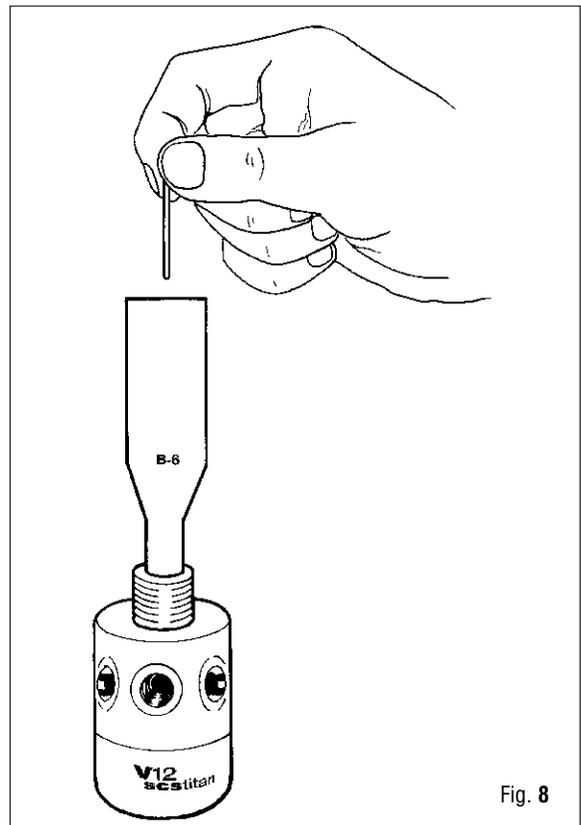

Fig. 8
14. Install protection cap (110).
15. Install O-ring (74) on seat connector (75).
17. With a slight pressure, push seat connector into position in the first stage body. (Fig. 8)
12. Insert poppet pin (12) in seat connector (75) using special tool B-6. (Fig. 8)